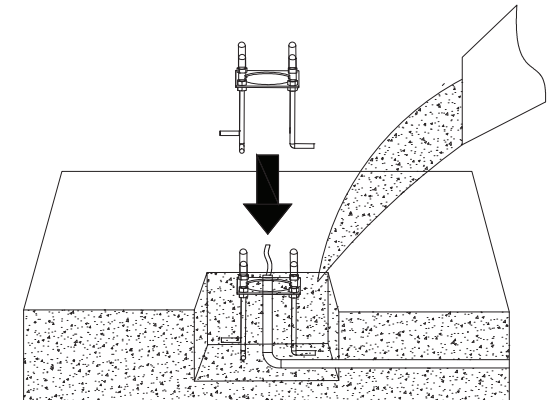

Fig3
- Sink the anchor bolts into the concrete as Fig3 leaving the threaded portion 1-1/2~2" as Fig4 above the cement . And remove the silicon caps.